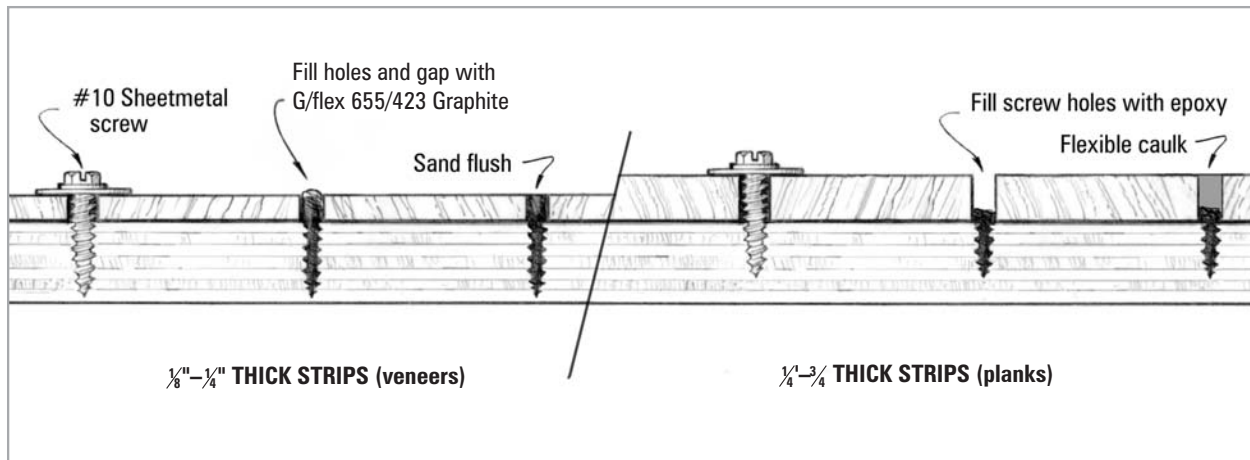

Figure 5-24 Sheet metal screws with large washers will clamp the strips in position until the 655/graphite mixture cures thoroughly.
- Clamp the plank in place with #10 sheet metal screws and large washers. Place the screws and washers between the strips, 8" apart. Each row of screws will clamp the edges of two adjoining planks and act as spacers (*Figure 5-24 left*). Coat the screws and washers with a mold release or place a small sheet of plastic under the washers to prevent bonding. Washers may also be cut from stiff plastic, thin wood lathe or similar stock with holes drilled for the screws. Tighten the screws down completely after pushing both adjoining strips tight against the screws. The epoxy mixture should squeeze up between the strips. Any voids between the planks should be filled at this time with the 655/graphite mixture.
Note: If planks thicker than $\frac{1}{4}$ " are used, do not fill between the planks with thickened epoxy. Instead, remove squeezed-out epoxy between planks and allow to cure. Remove the screws and washers and sand the top surface of the planks fair. Fill the joints with Thiokol or polysulfide caulk (*Figure 5-24 right*).